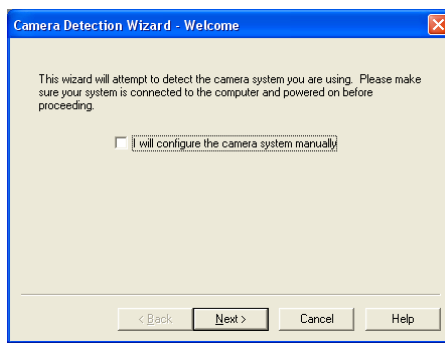

Figure 3-5. Camera Detection Wizard - Welcome dialog
2. On the **Welcome** dialog (Figure 3-5), leave the checkbox unselected and click on **Next**.